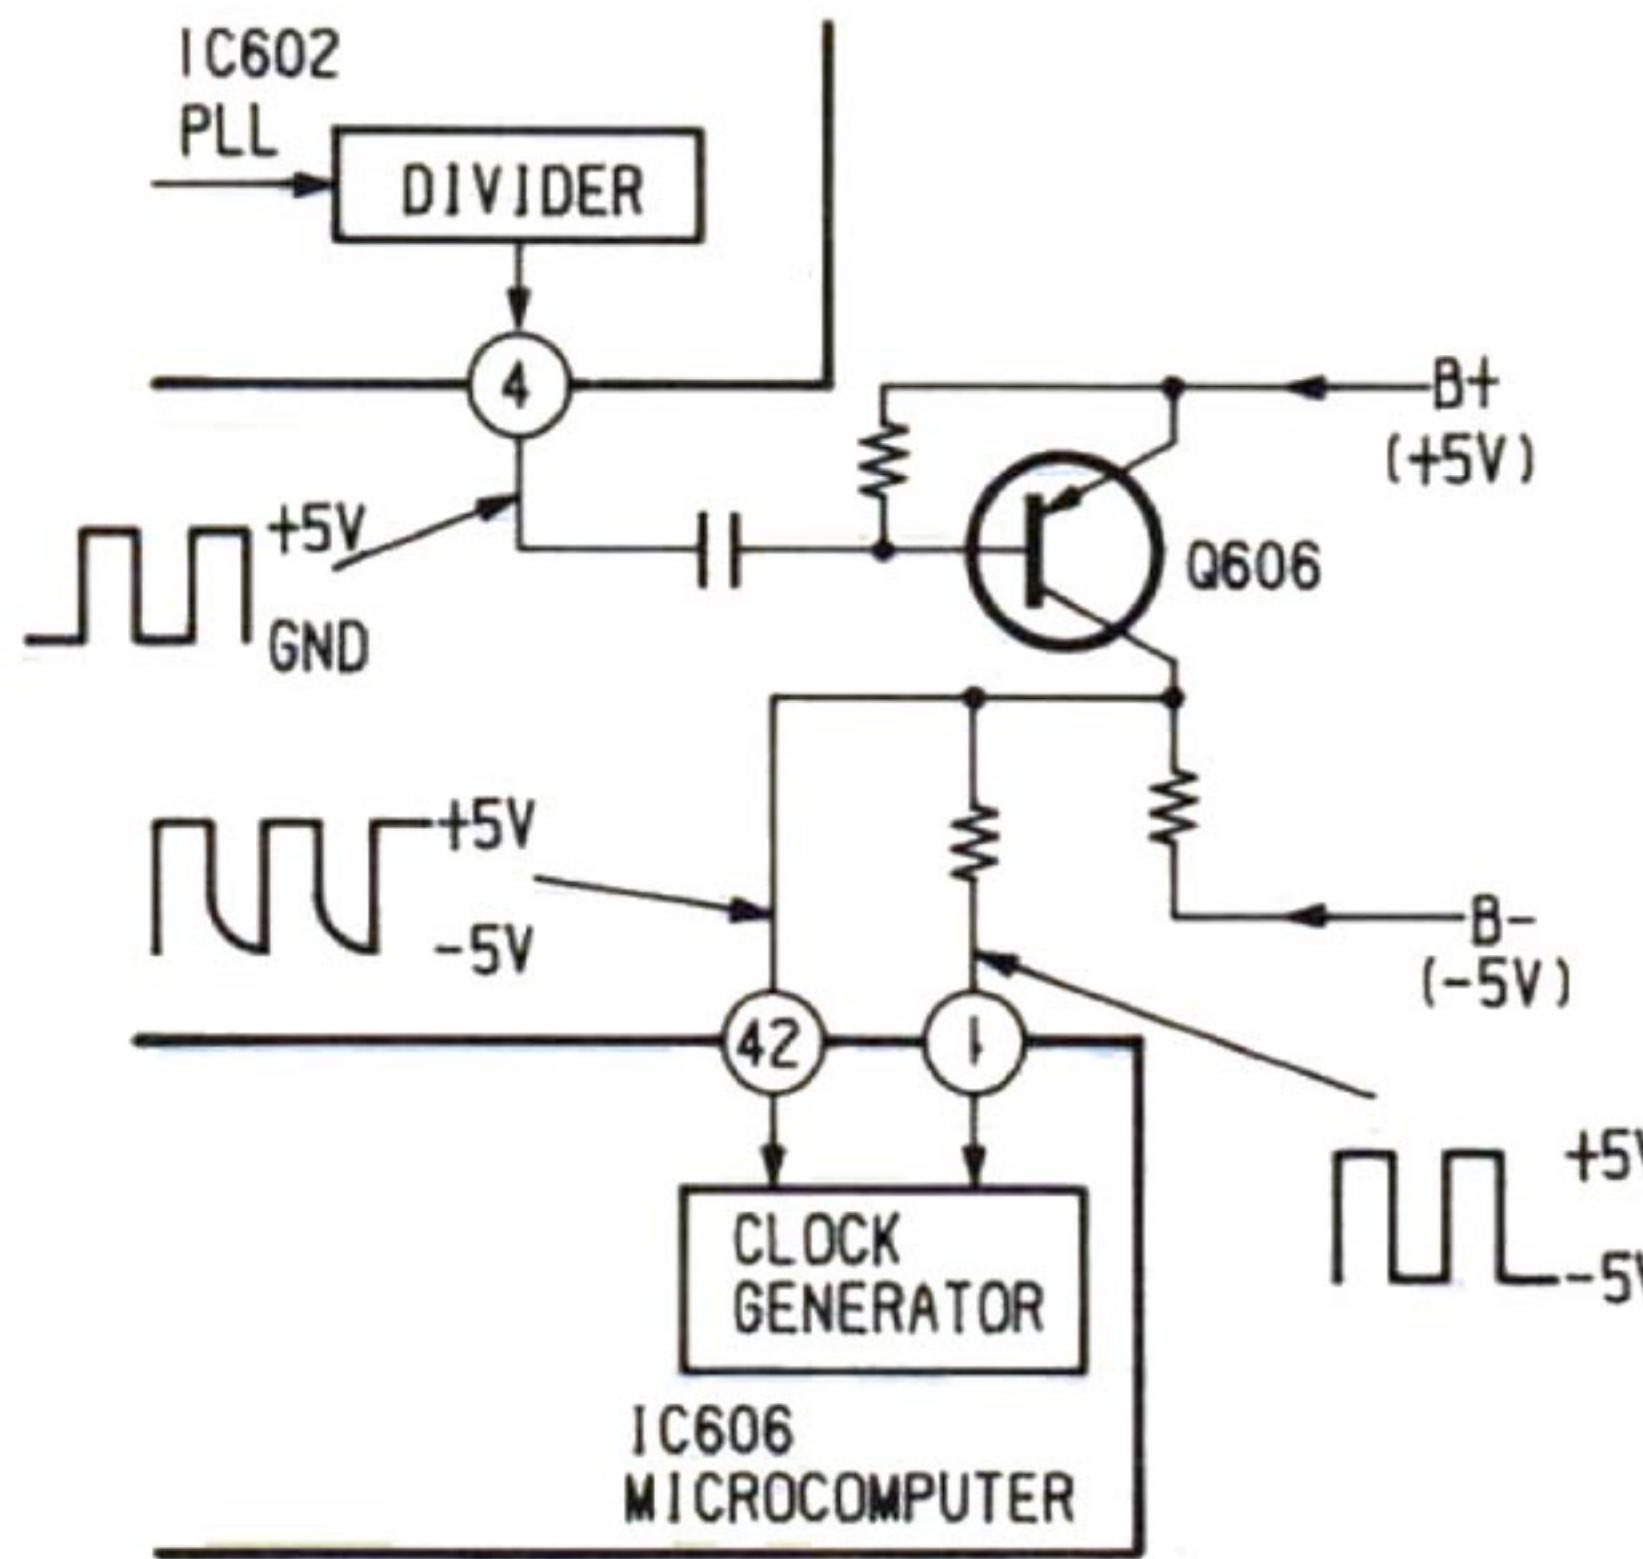

Fig. 9
1) Clock Conversion Circuit (Refer to Fig. 9)